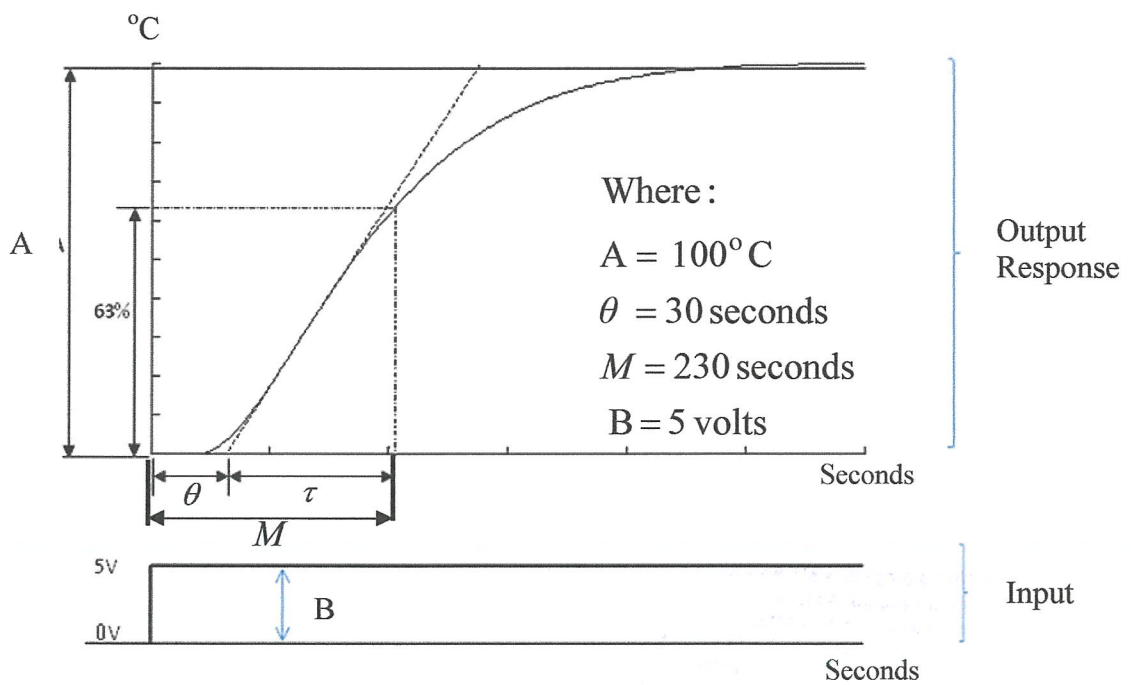

Figure Q3(b)
- (b) Hafiz Holding in a way for developing Proportional Integral Derivative (PID) controller for heat exchanger system. The plot of input and output open loop experimental data for the heat exchanger system is shown in **Figure Q3(b)**. As an engineer at Hafiz Holding and based on **Figure Q3(b)** ;